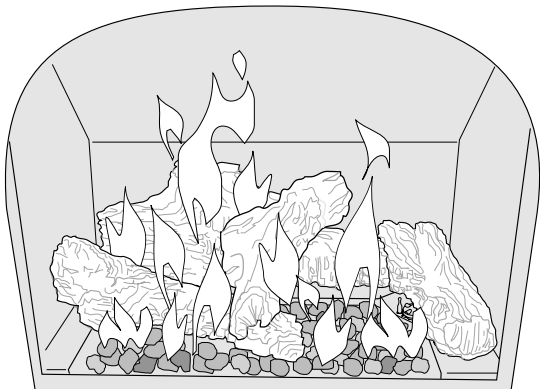

Figure 29. Flame appearance on the “high” setting after approximately 15 to 20 minutes burning.
3. **BURNER ADJUSTMENT:** This stove is equipped with a variable gas regulator in the valve that allows easy adjustment of the flame height appearance and heat output. To adjust the flame between the HI and LOW setting, rotate the HI/LOW knob, located in the center of the valve face. Fire intensity can be adjusted up to 50% between the LOW and HIGH settings. See fig. 29. **NO SMOKE OR SOOT SHOULD BE PRESENT. CHECK LOG PLACEMENT IF ANY SOOT OR SMOKE IS PRESENT. IF SOOT OR SMOKE PERSISTS, THE AIR SHUTTER MAY NEED TO BE ADJUSTED.**